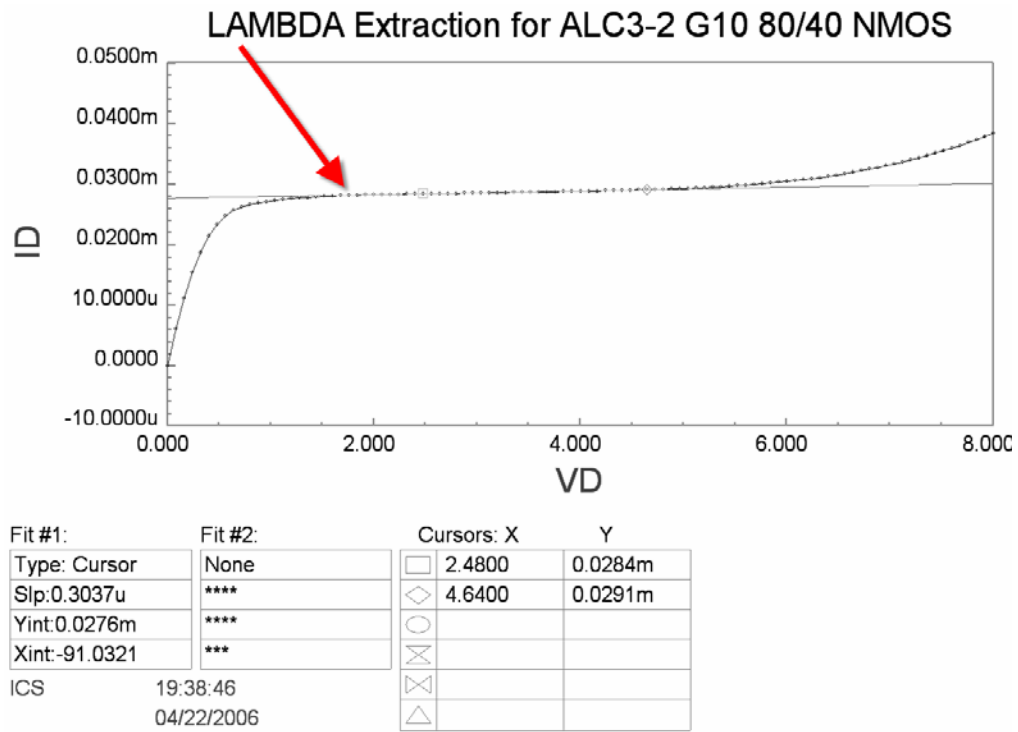

Figure 75: Pointing to a curve
4. To add an arrow, firstly you click on the starting point. Then you hold then press and move to the ending point. Figure 75 is an example of pointing to a curve.